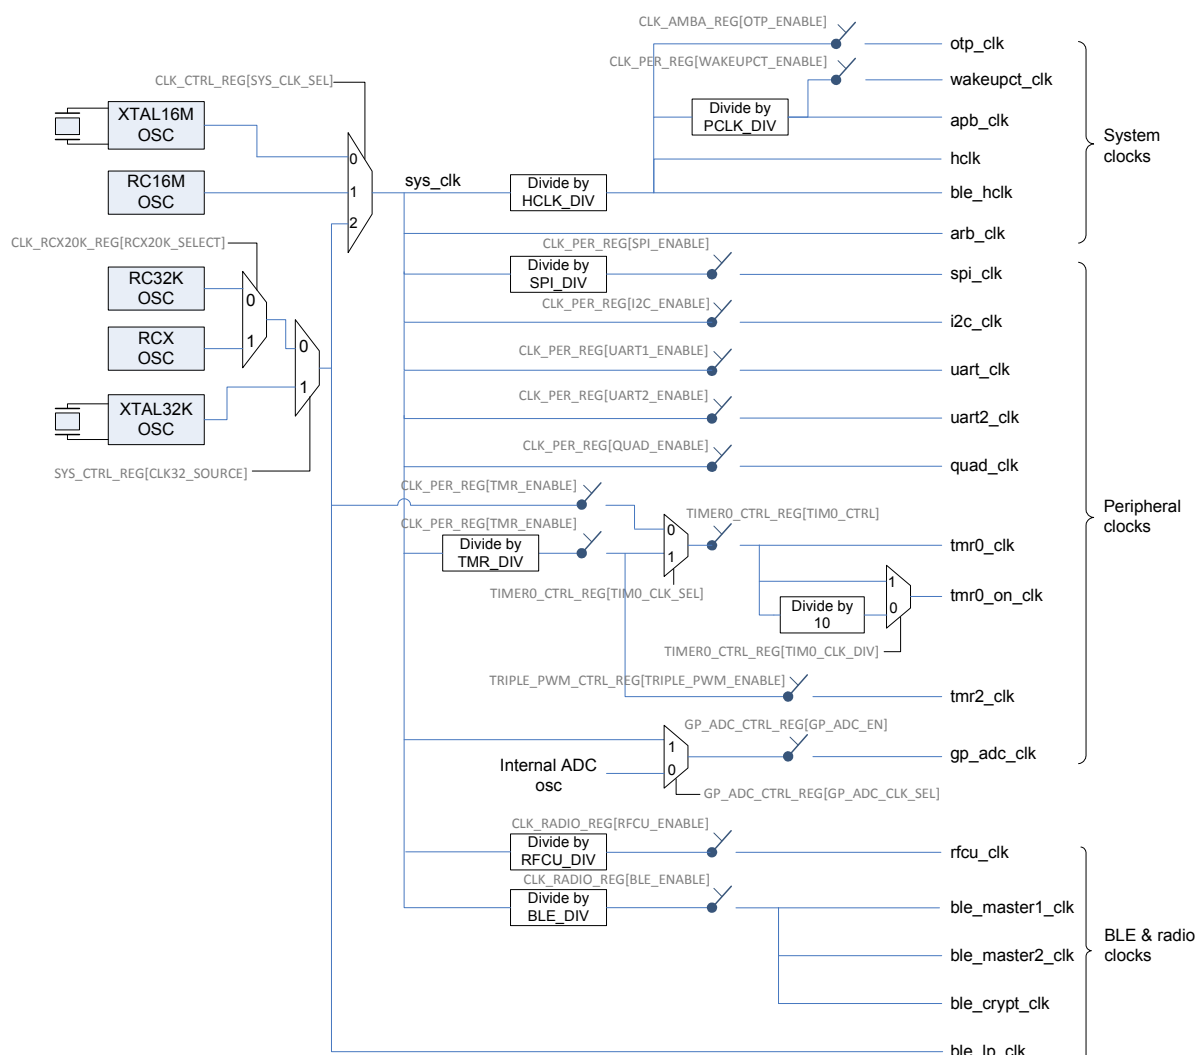

Figure 16: Clock Generation Block Diagram
The clock names depicted in Figure 16 are explained in the following Table:
- When the SPI block is set to Slave mode, then the spi\_clk (as depicted in Figure 16) should be at least 4x the clock frequency provided by the external SPI Master. This is required for proper sampling of the data line.